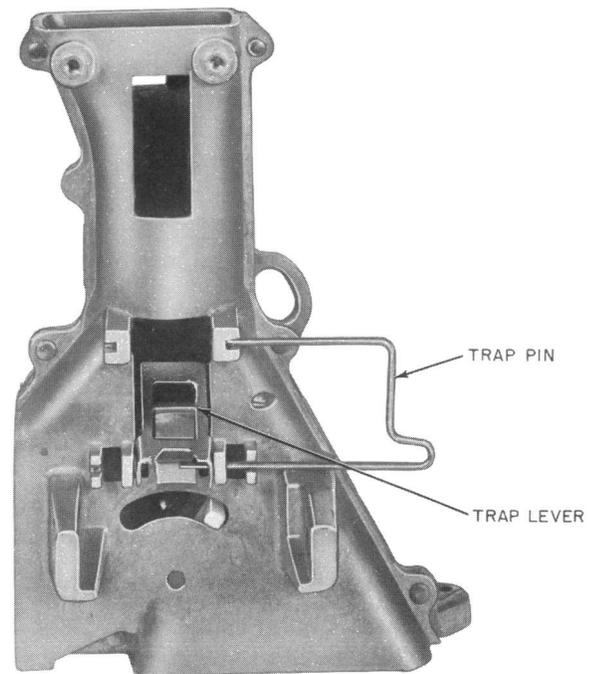

Fig. 18 — Placing Trap-Lever Pin on Hopper
- (1) Partially insert trap pin into hole in hopper.
- (2) Place trap-lever on trap pin (Fig. 18).